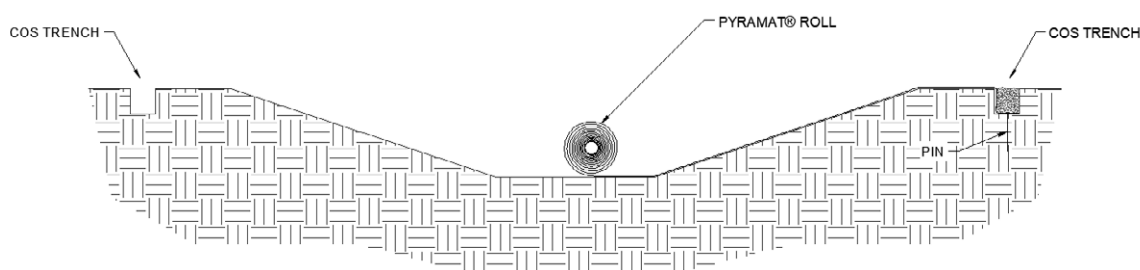

Figure 10: Perpendicular placement of PROPEX Pyramat across channel
9. Unroll the **PROPEX** Pyramat roll on the channel surface in the area to be armored. (Figure 10). Ensure that the material has intimate contact with the ground and all irregular surfaces beneath it are removed.